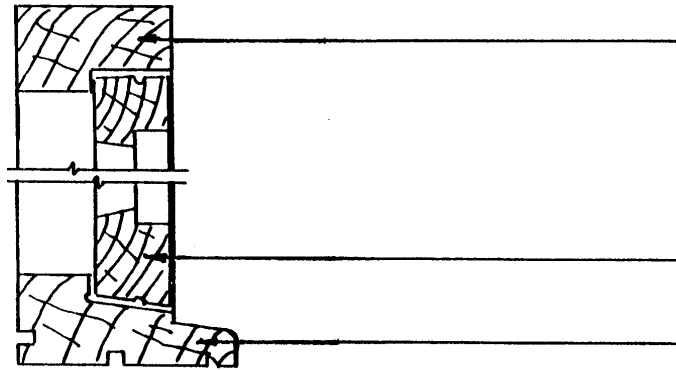

Fig. 6
17. Figure 6 shows a vertical section through a casement window. Name the members indicated.